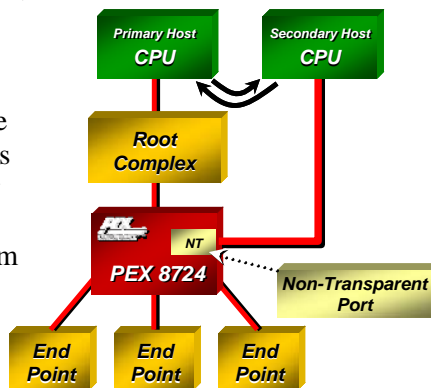

Figure 3. Non-Transparent Port
In Single-Host mode, the PEX 8724 supports a **Non-Transparent (NT) Port**, which enables the implementation of **dual-host systems** for redundancy and host failover capability. The NT port allows systems to isolate host memory domains by presenting the processor subsystem as an endpoint rather than another memory system. Base address registers are used to translate addresses; doorbell registers are used to send interrupts between the address domains; and scratchpad registers (accessible by both CPUs) allow inter-processor communication (see Figure 3).